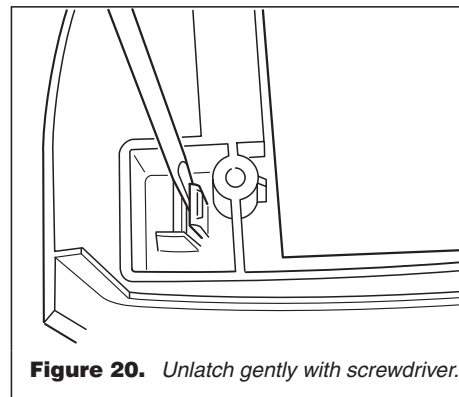

Figure 20. Unlatch gently with screwdriver.
- Unlatch them gently with a screwdriver while pulling the electronics housing assembly out. See figure 20.